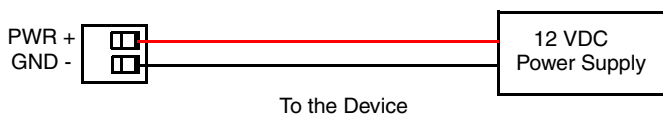

FIG. 2 12 VDC Power Connector Wiring Diagram
- The PWR and GND cable from the 12 VDC power supply must be connected to the corresponding location on the 2-pin 3.5 mm mini-captive wire connector (FIG. 2).